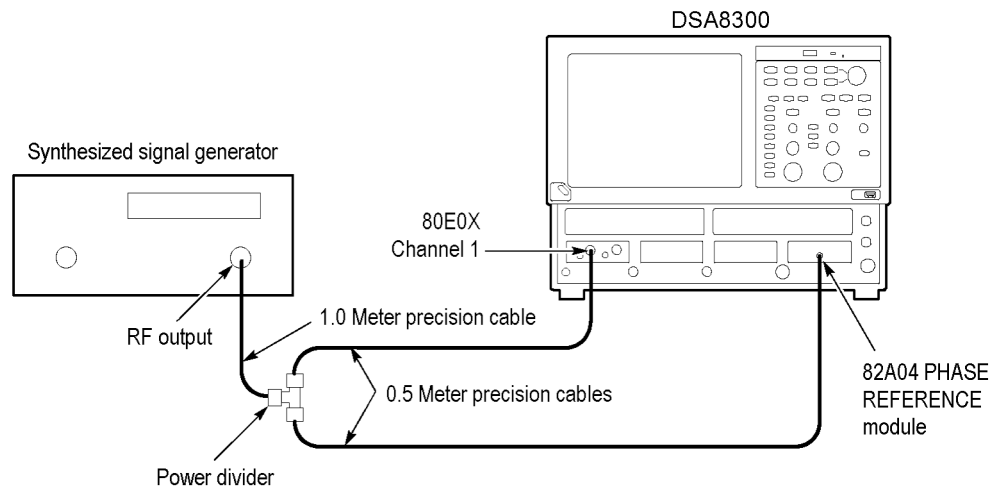

Figure 10: Phase corrected untriggered jitter test setup
3. Connect the test equipment (See Figure 10.)